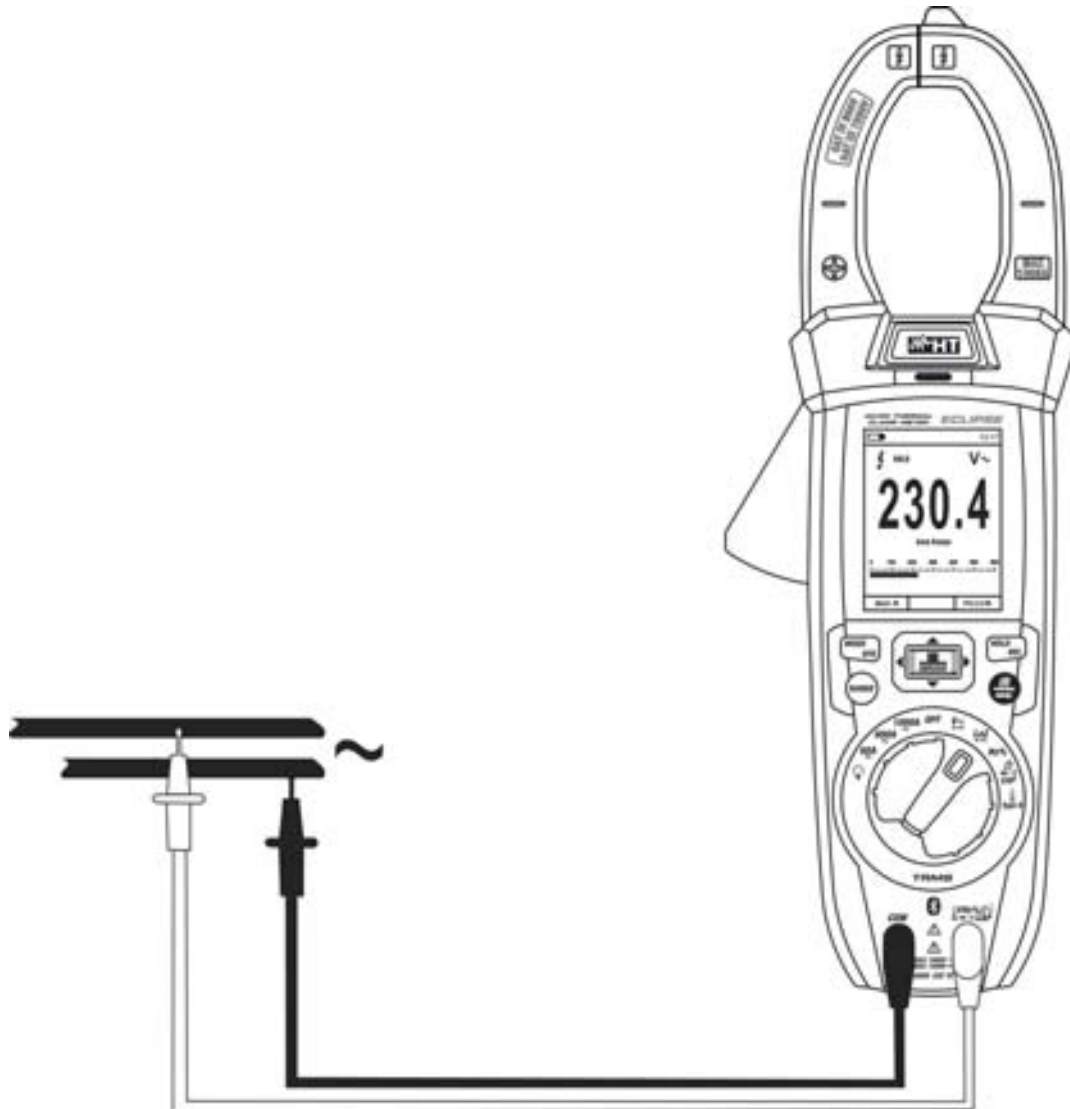

Fig. 25: Use of the instrument for LoZAC, LoZAC+DC voltage measurement
4. Position the red lead and the black lead respectively in the spots of the circuit to be measured (see Fig. 25). The display shows the value of voltage.